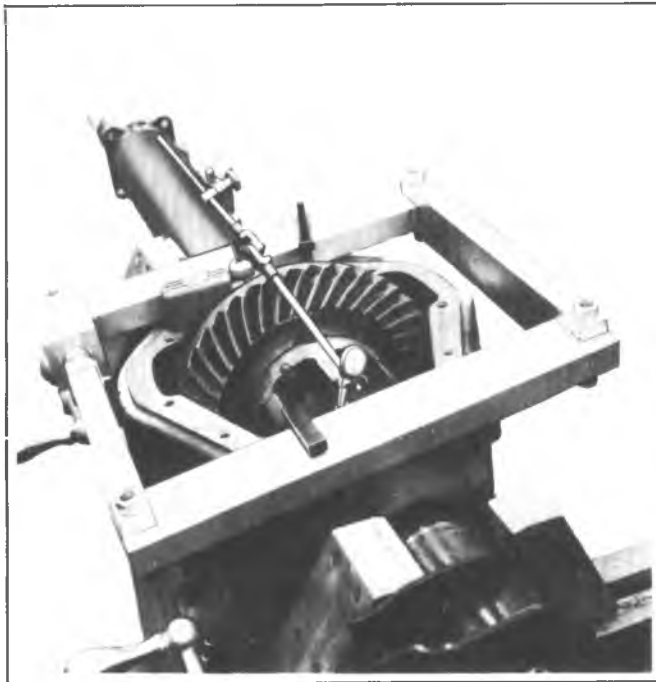

Fig. 15F-Tool J-24385 Mounted on Carrier
7. Using spreader Tool J-24385 and dial indicator as shown in figure 15F, spread carrier a maximum of .020".
1. Spread differential carrier, using spreader as shown in figure 15F.